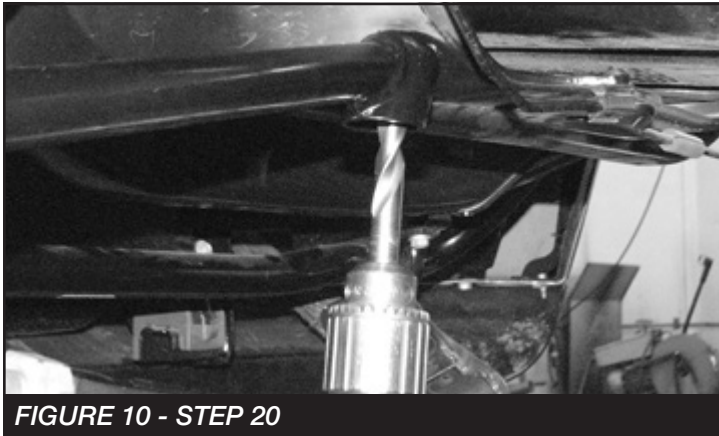

FIGURE 10 - STEP 20
20. Using the Fabtech bracket as a guide, drill a 1/2" hole in the cross member under the motor. Next, mount using 1/2"-13x1.5" and washer. **SEE FIGURE 10**